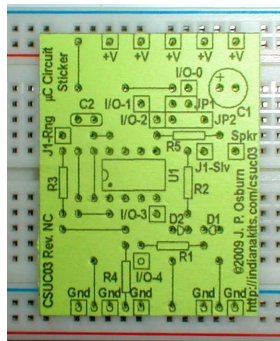

Figure 4 - CSUC03 Circuit Sticker on Solderless Breadboard
- ◇ Carefully remove the release paper from the Circuit Sticker and apply it to the solderless board properly aligned and orientated. See Figure 4..